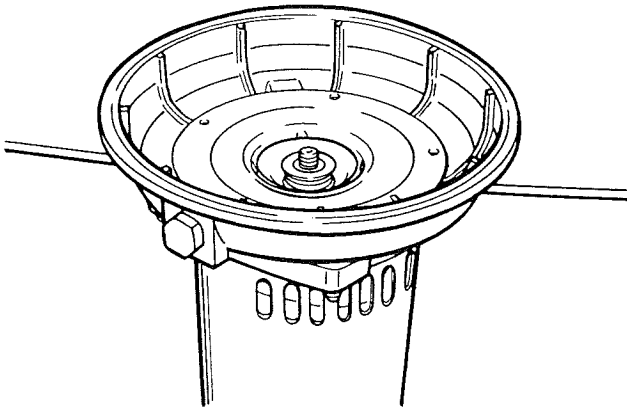

Figure 23—Remove Seal Plate
3. Unscrew four nuts holding pump back half to motor. Remove rotating half of seal by placing two screwdrivers under back half of pump body and **carefully** prying up (Figure 23). Back half of pump body will slide off shaft, bringing seal with it.